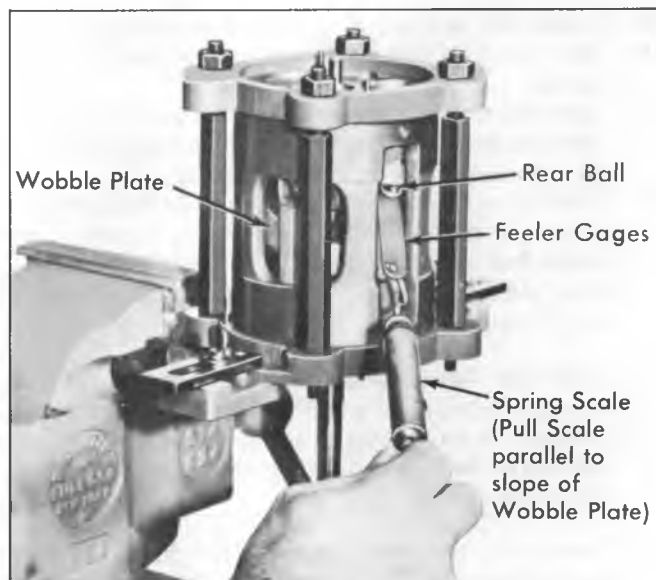

Fig. 23-Checking Clearance Between Rear Ball and Wobble Plate
12. Use a leaf type feeler gauge and a suitable spring scale to check clearance between the REAR ball and the wobble plate (fig. 23) of the No. 1 piston. Use a suitable combination of feeler gauge leaves until 4 to 8 oz. of force is required to pull gauge from between the ball and the plate.